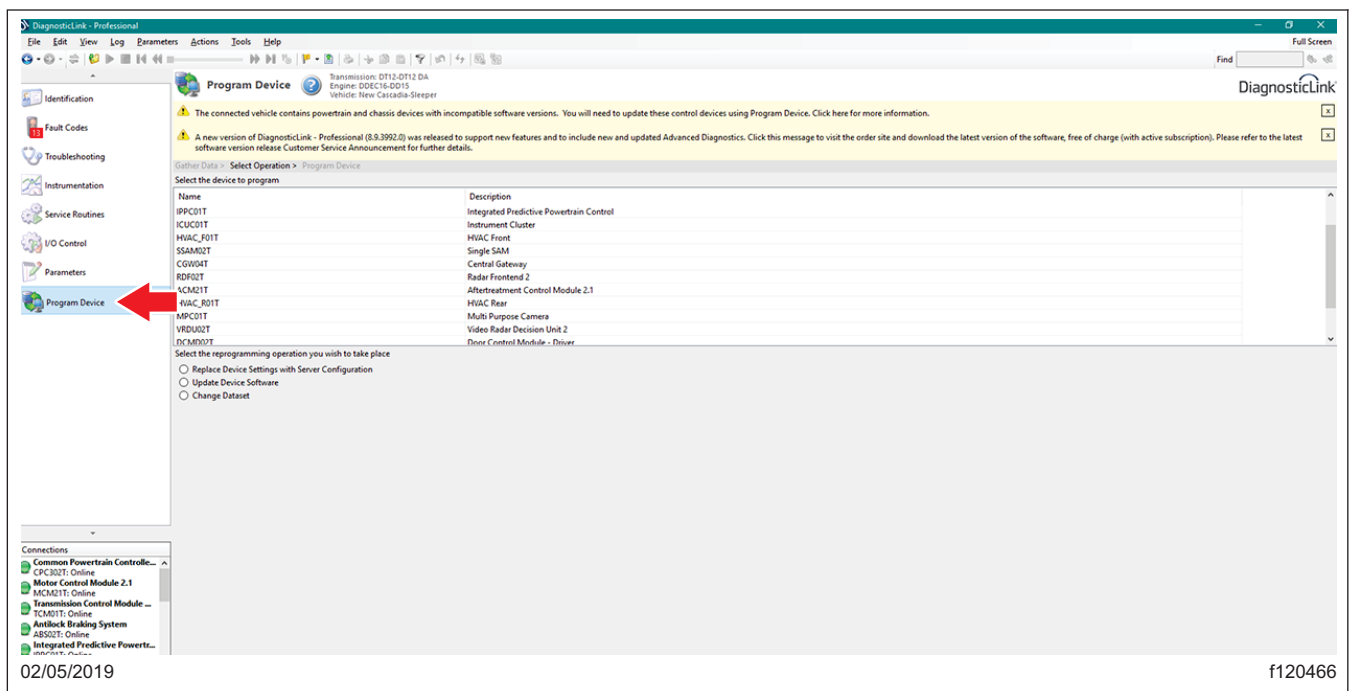

Fig. 1, Updating DiagnosticLink to the Latest Version
2. Connect the vehicle to DiagnosticLink. Make sure that DiagnosticLink is updated to the latest version, 8.09sp2. To update DiagnosticLink, select "Update" from the dropdown menu under "Tools." See Fig. 1.